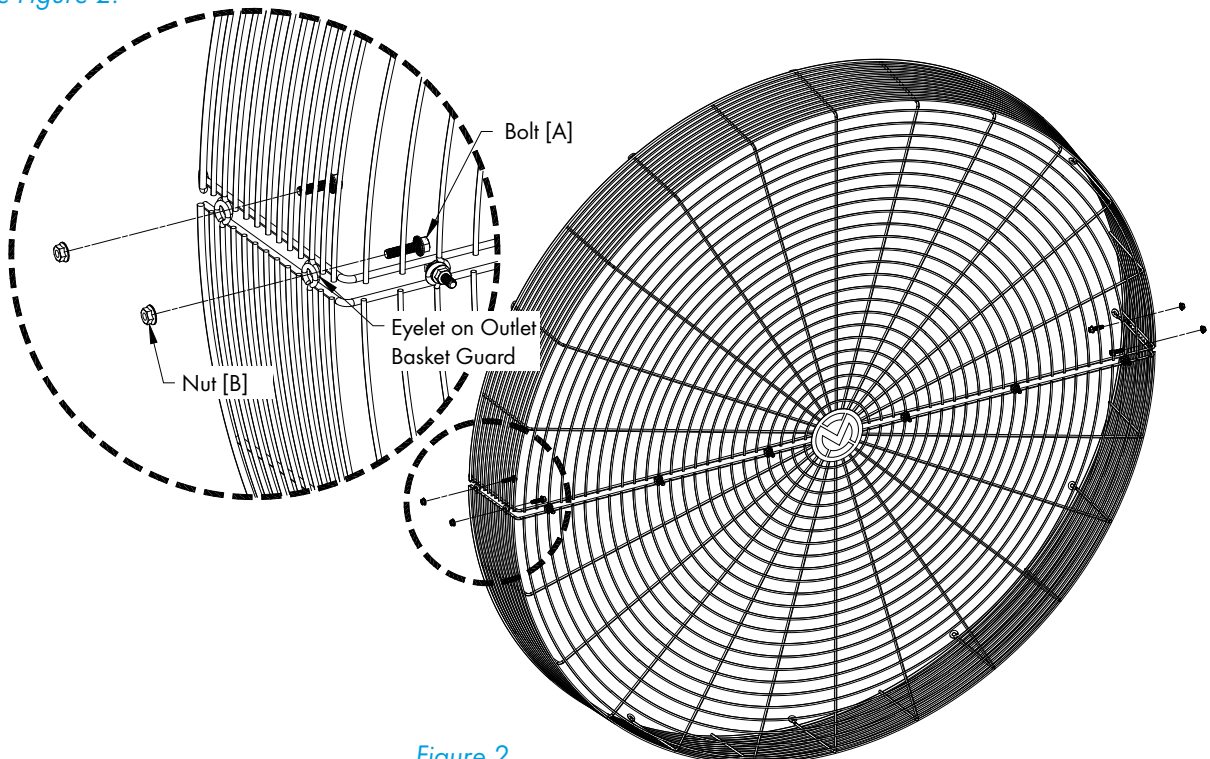

Figure 2
Next secure the sides of the Outlet Basket Guards together using (2) Bolts [A] and Nuts [B] for each side. See Figure 2.